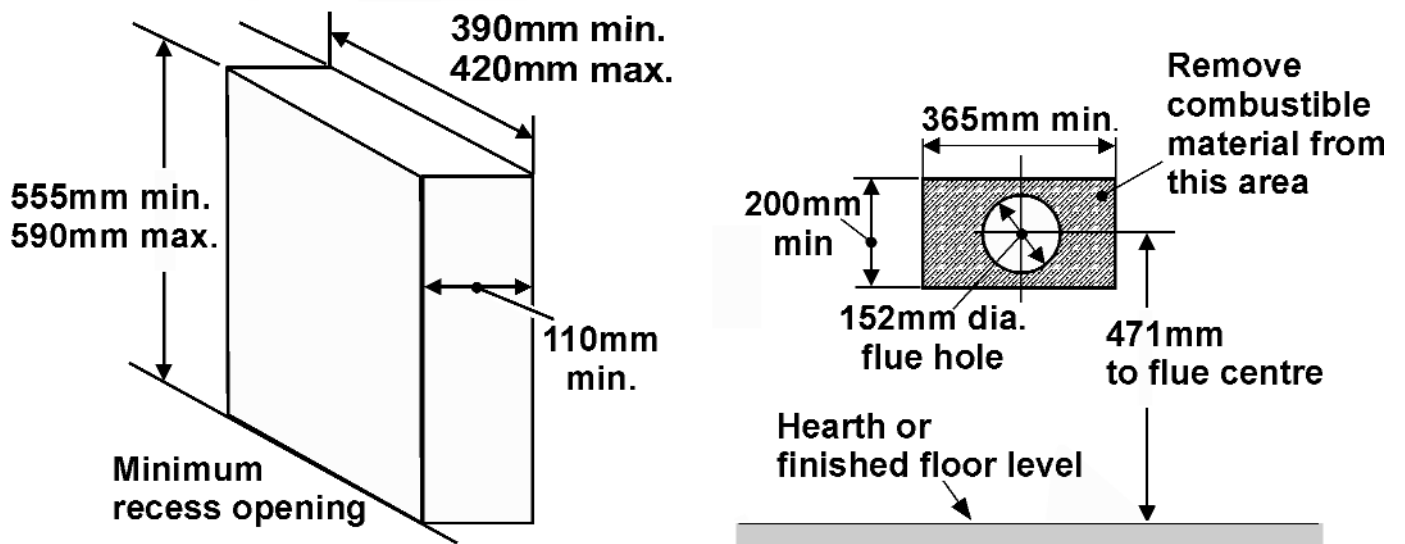

Figure 2. Recess and flue hole dimensions
**5.5.2** A hole 152mm (6in) dia. is required through the wall for the flue unit. The height of the hole centre is shown in figure 2 and on the wall-fixing template supplied with the appliance.
- c) Recessed into a builder's opening or cavity of a non-combustible wall. The cavity can be elevated. The minimum cavity size is shown in figure 2. A lintel may be required above the recess opening. If in doubt seek expert building advice. Lintel construction details are given in section 8 of this guide. **This appliance must not be recessed into a combustible wall.**